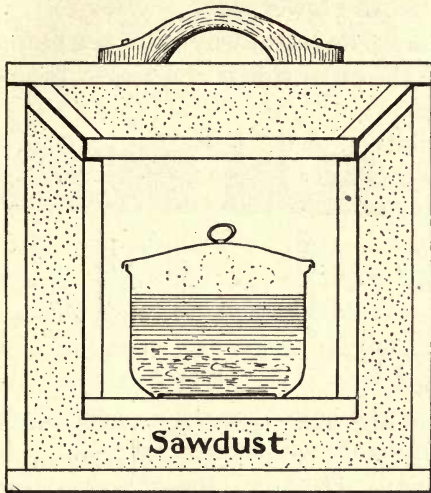

FIG. 123. — A Homemade Fireless Cooker.
**The Fireless Cooker.** — This is merely an arrangement of non-conducting substances to prevent the escape of heat from heated foods placed in it (Figure 123). The two walls of the fireless cooker are separated by a thick layer of non-conducting materials such as sawdust, felt, or cork shavings. These inclose a considerable amount of air,